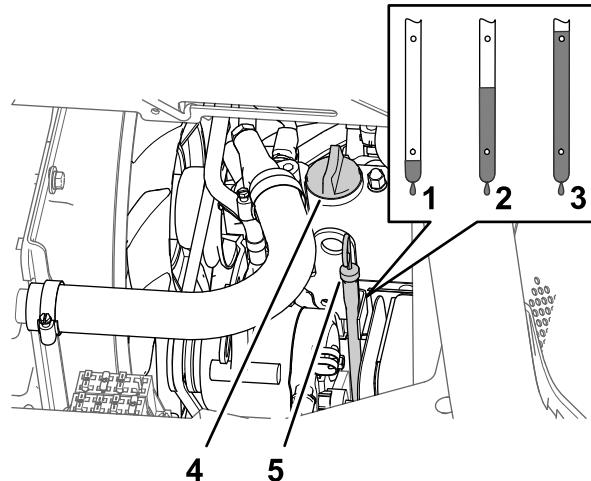

Figure 114
5. Remove the oil-filler cap from the filler neck of the valve cover of the engine (Figure 114) and slowly pour approximately 80% of the specified amount of oil into the filler neck.
6. Remove the dipstick and check the oil level in the engine (Figure 114).
7. Slowly add additional specified oil to bring the oil level to the full mark on the dipstick (Figure 114).
8. Install the oil-filler cap into the filler neck and the dipstick into the dipstick tube (Figure 114).